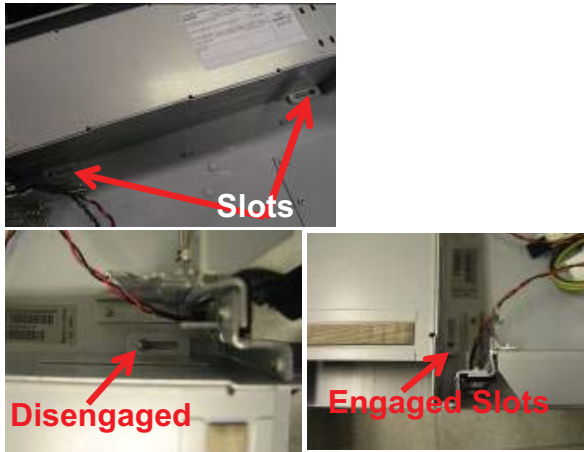

Figure 17. PSU Cage Slots
2. Lower the PSU cage into the chassis, aligning the four slots as shown in Figure 17.